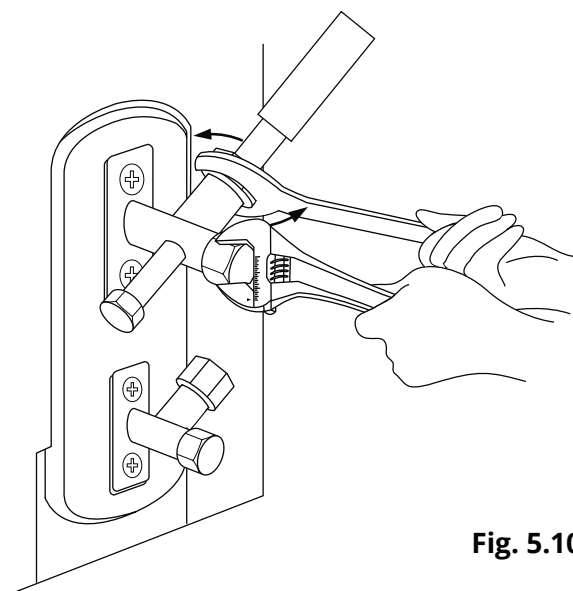

Fig. 5.10
4. Using an adjustable wrench, grip the body of the valve. Do not grip the nut that seals the service valve. (See **Fig. 5.10**)